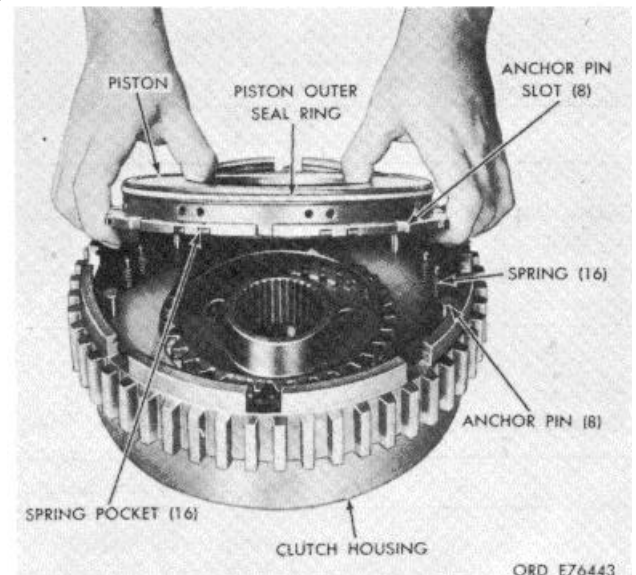

Figure 7-43. Installing output clutch piston.
m. Install the piston, larger diameter first, into the clutch housing. Make certain that all of the springs seat in the counterbored spring pockets in the clutch piston (fig. 7-43). Shaking the piston will help seat the springs.